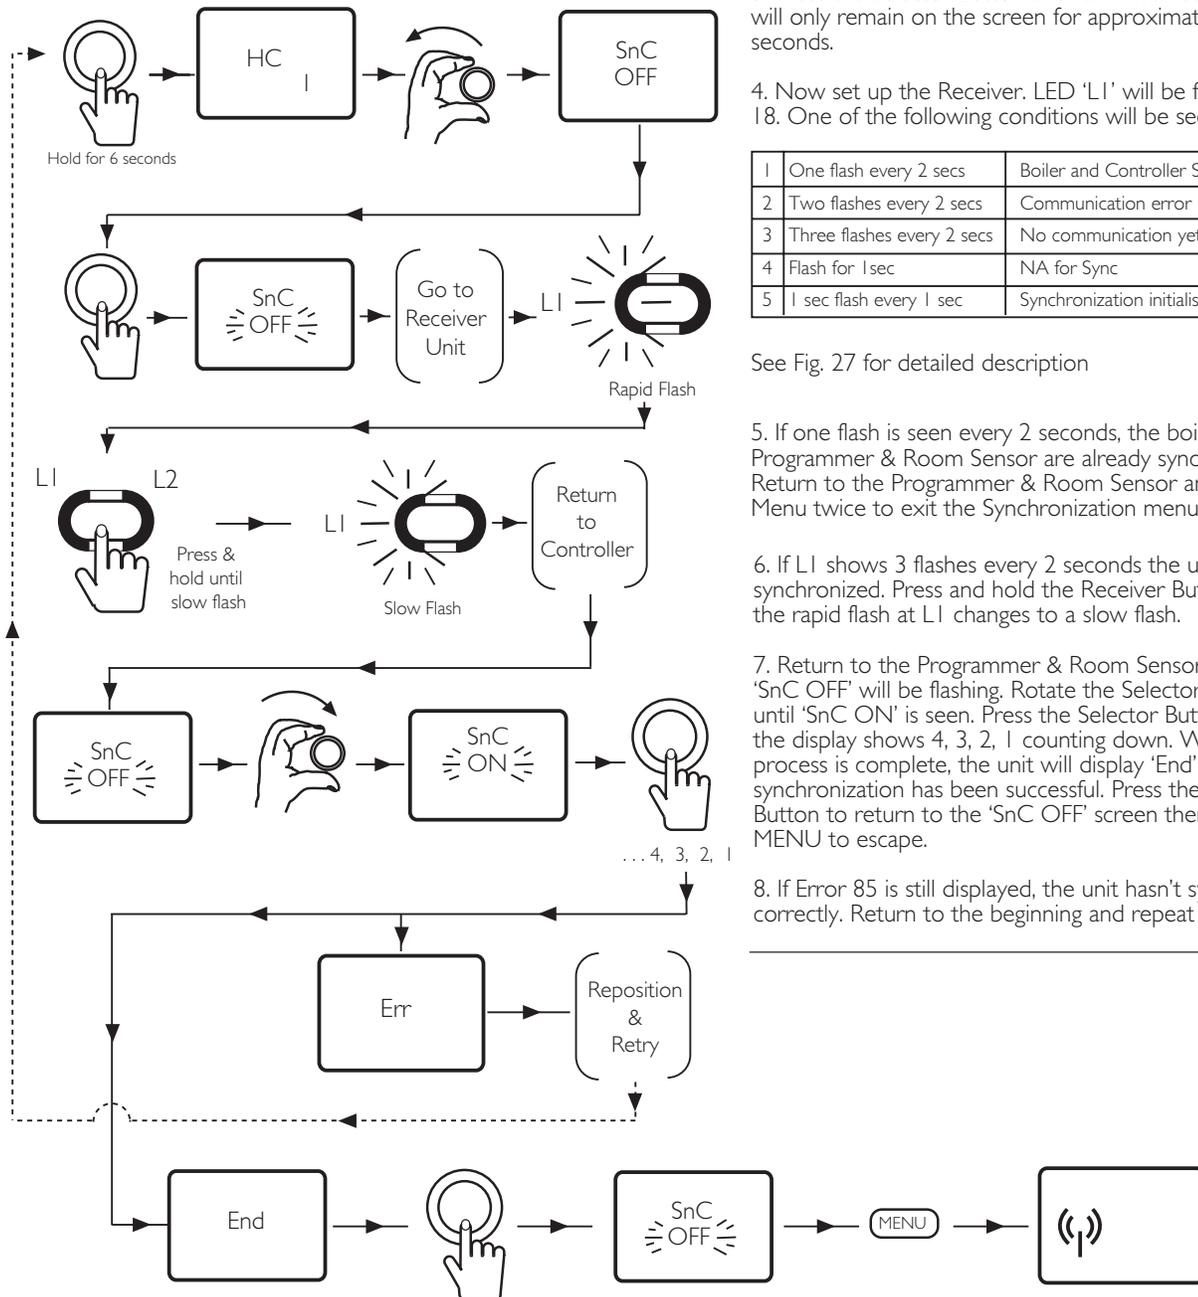

Fig. 18. Manual Sync Process Diagram
The Programmer & Room Sensor and the Receiver can be synchronized using the method shown in Fig. 18 as follows:
4. Now set up the Receiver. LED 'L1' will be flashing. Fig. 18. One of the following conditions will be seen.